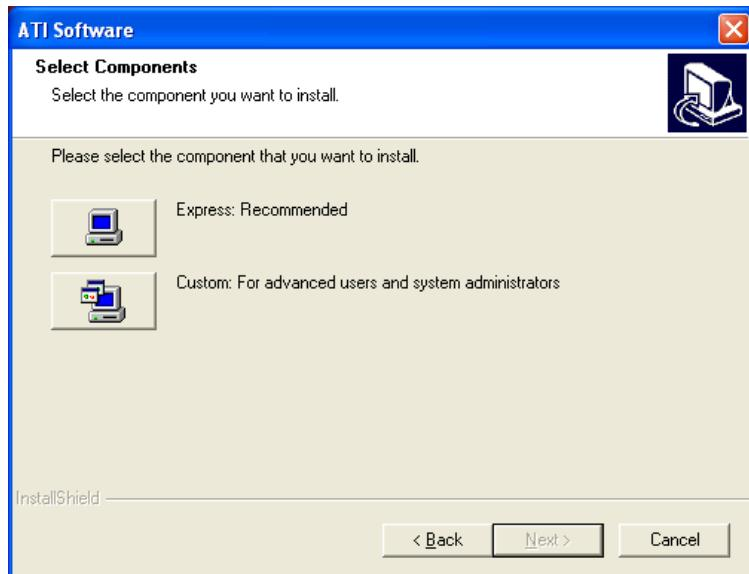

Figure 7-10: Chipset Driver Installation Complete
Step 13: The screen in **Figure 7-10** appears.